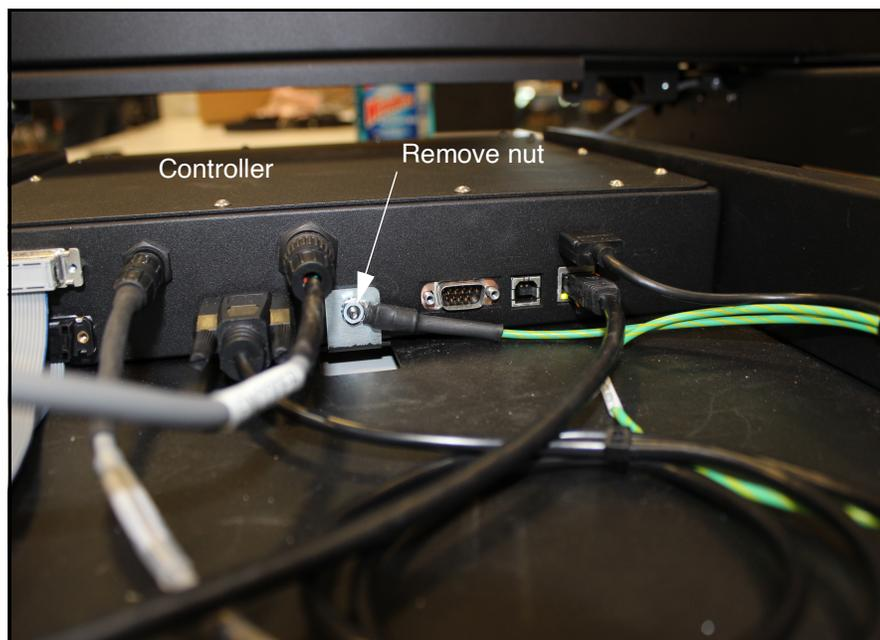

Figure 57
5. Locate the controller (the black box located below the gate's home position). Remove the nut using an 11/32" nut driver (see Figure 57).